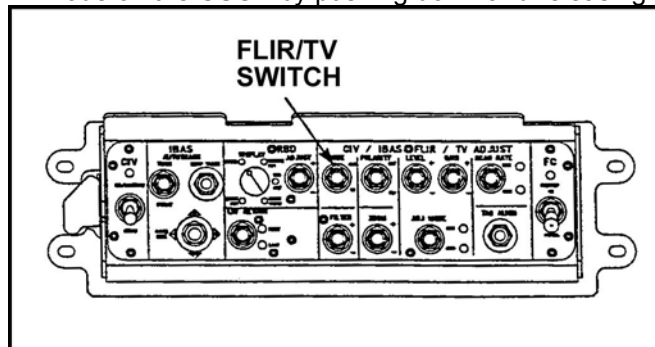

Figure 9. CSCP FLIR/TV MODE switch.
- (1) Select FLIR mode on the CSCP by pushing down and releasing the switch (Figure 9).